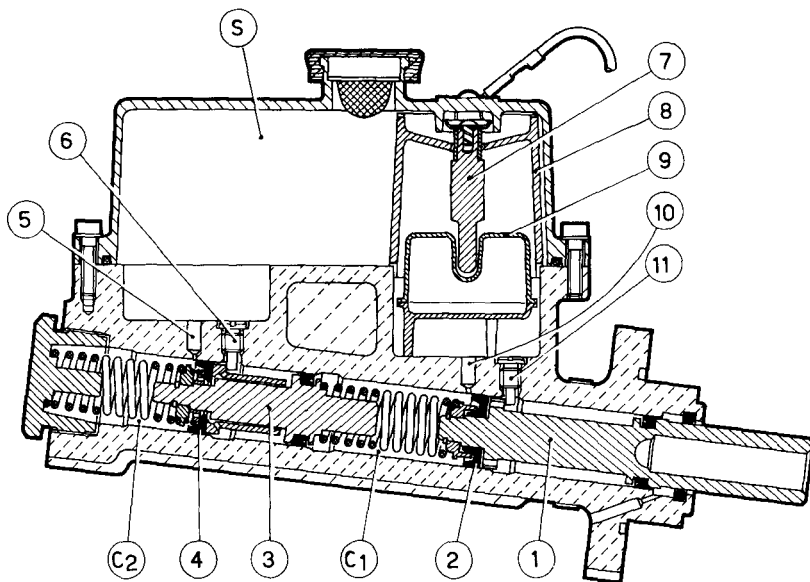

Fig. 27. - Master cylinder.
When master cylinder does not operate as shown in fig. 27, chambers (C1-C2) are both connected to brake fluid reservoir (S) throughout ports (5-10).